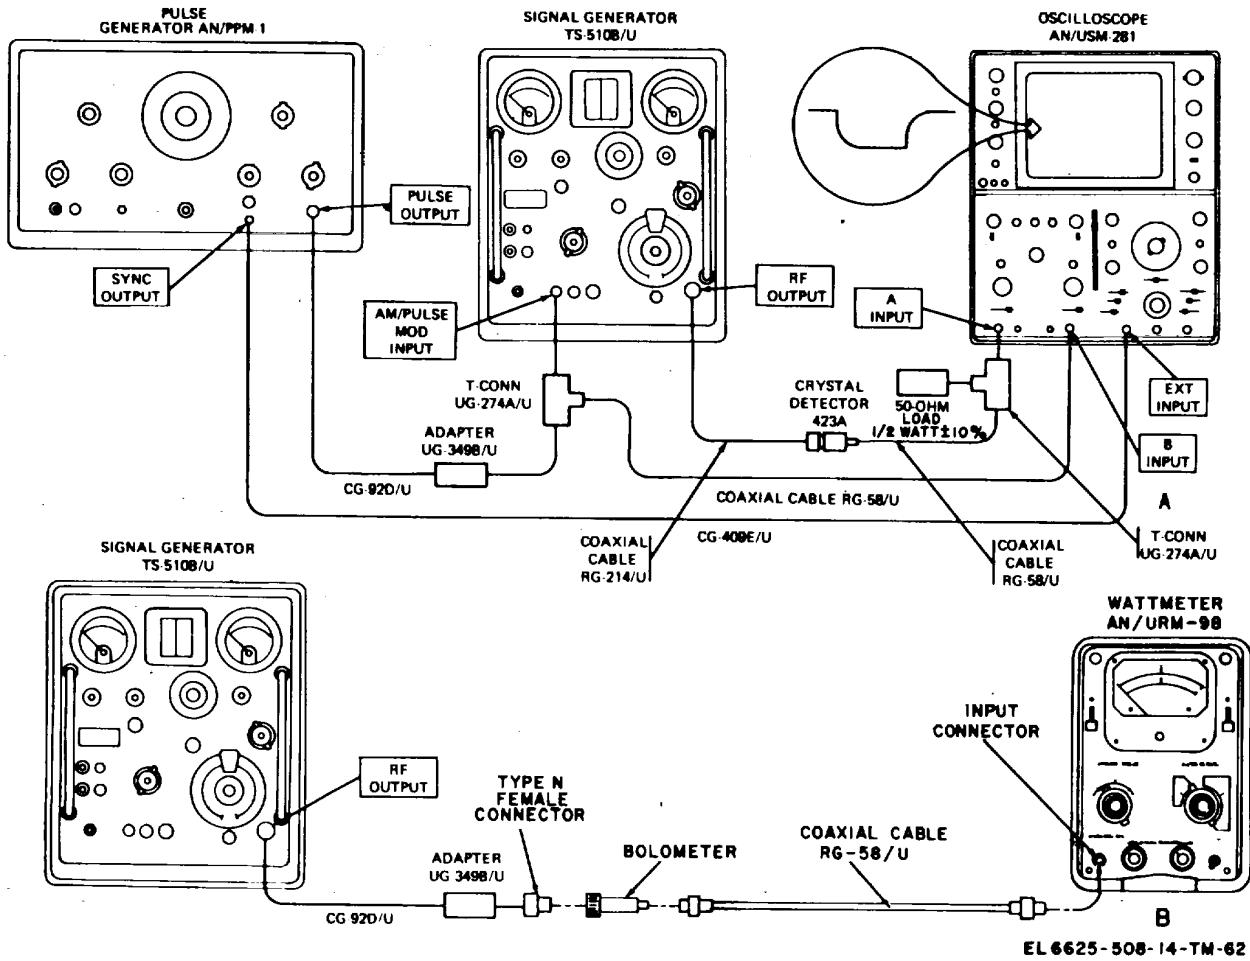

Figure 6-33. External pulse modulation and residual level test connection.
- (2) Oscilloscope AN/USM-281A
- (3) Crystal Detector 423A
- (4) BNCT Connector UG -274A/U (2 each)
- (5) AdapterUG-349BIU
- (6) Coaxial Cable CG-92D'U
- (7) Coaxial Cable CG-409E[U
- (8) Coaxial CableRG-2141U
- (9) Coaxial Cable RG -581U
b. Test Connections and Conditions. Equipment will - be connected as shown in A or B of figure 6-33, depending on test requirements.